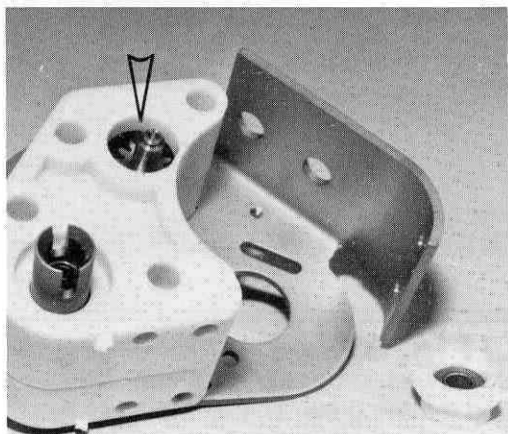

Fig. 89
□ **Fig. 89** Oil and install the adaptor onto the dif shaft.